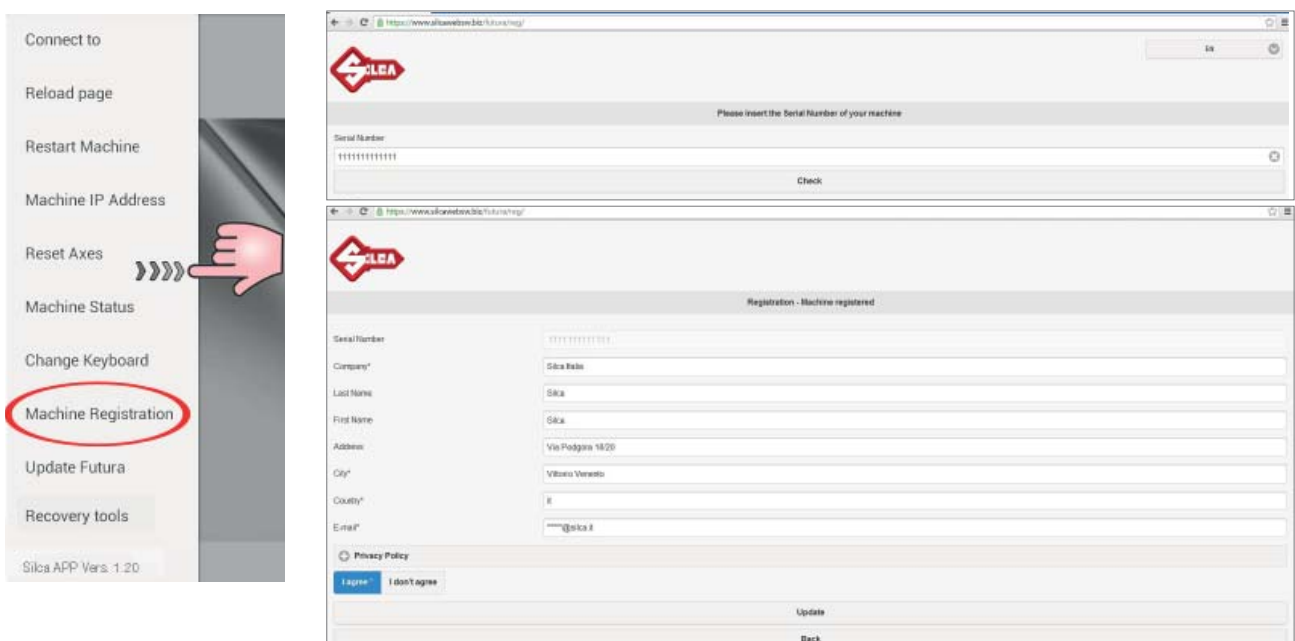

Fig. 16
- Tap “Machine registration” (Fig. 16).